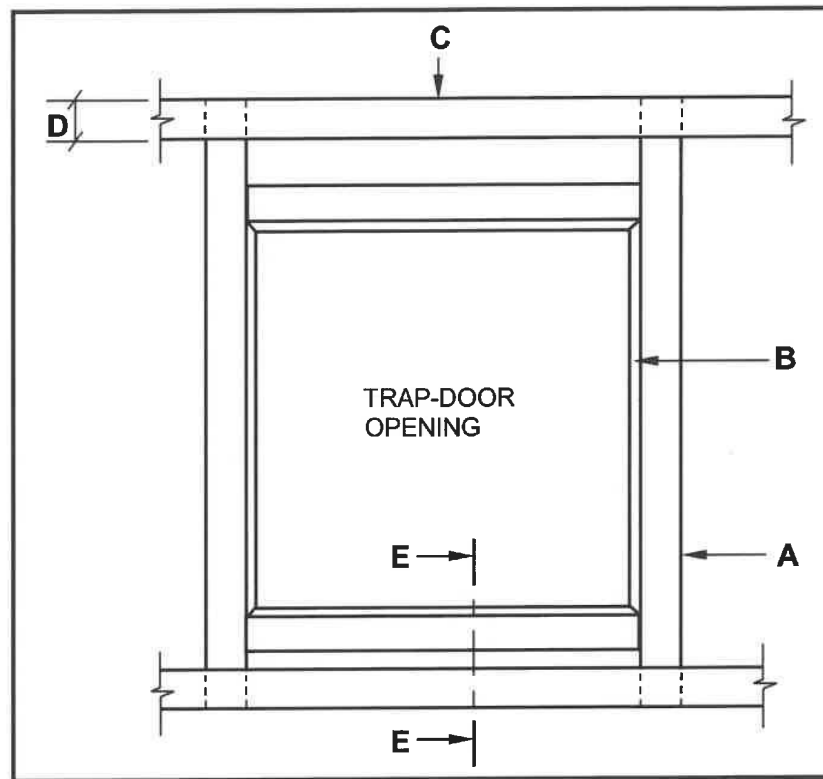

FIGURE 4.5
- 4.5 FIGURE 4.5 below shows the top view of a trap-door opening, without a door, as seen from the inside of the roof space.